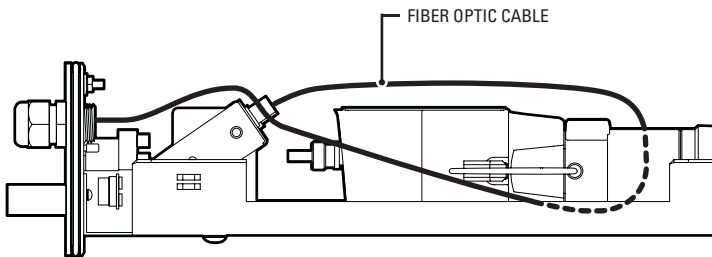

Figure 7. Routing Fiber Optic Cable in EH2515 Enclosure
- (1) Route the cable above the transmitter and then along one side of the camera until you can loop the cable underneath the lens; then route the cable back along the other side of the camera toward the fiber optic connector on the transmitter (refer to Figure 7).
- (2) Connect the cable to the fiber optic connector on the transmitter.